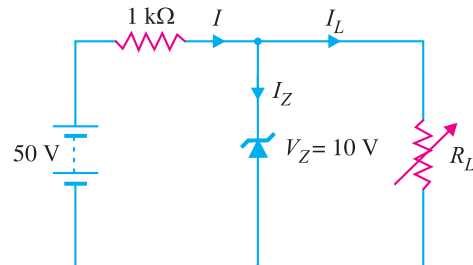

Fig. 6.80
15. In the circuit shown in Fig. 6.80, determine the range of R_L that will result in a constant voltage of 10 V across R_L . [250 Ω to 1.25 k Ω]